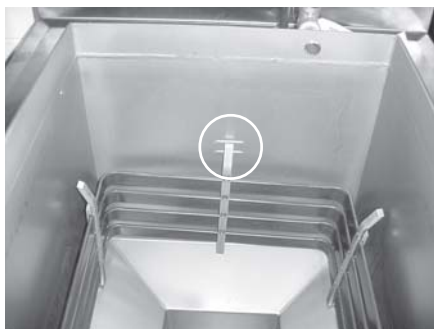

Figure 3-3
The shortening level must always be above the heating elements when the fryer is heating and at the frypot level indicators on the rear of the frypot (Figure 3-3). Failure to follow these instructions could result in a fire and/or damage to the fryer.
2. The electric model requires 100 lbs. (45 Kg.) of shortening. The frypot has 2 level indicator lines inscribed on the rear wall of the frypot which show when the heated shortening is at the proper level. Figure 3-3.